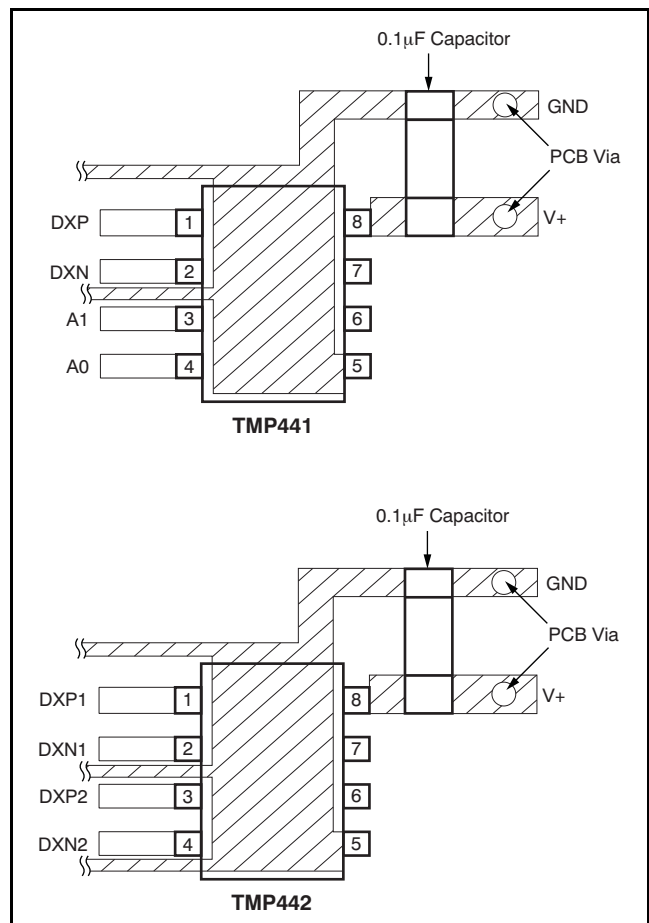

Figure 20. Suggested Bypass Capacitor Placement and Trace Shielding
4. Use a 0.1 $\mu$ F local bypass capacitor directly between the V+ and GND of the TMP441/42, as shown in Figure 20. Minimize filter capacitance between DXP and DXN to 330pF or less for optimum measurement performance. This capacitance includes any cable capacitance between the remote temperature sensor and TMP441/42.